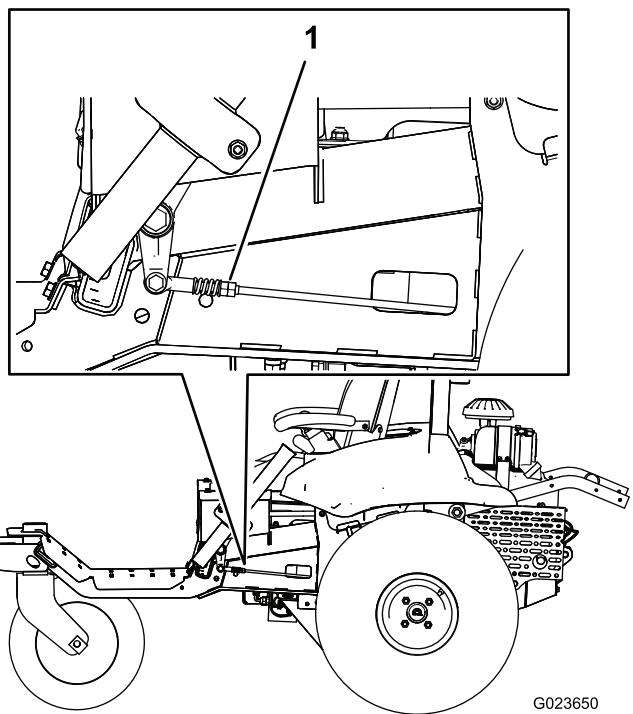

Figure 61
7. On 1 side of the machine, slowly turn the double nuts on the linkage (Figure 61) until the wheel on that side starts to rotate, then turn the double nuts in the opposite direction until the wheel rotates in the other direction.